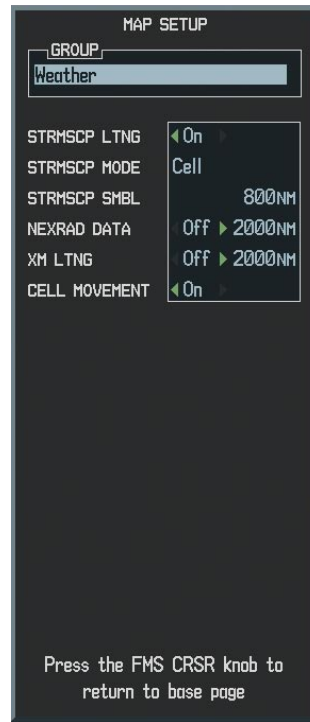

Figure 6-38 Map Setup Menu
- 3) Select the 'Weather' group (Figure 6-38).